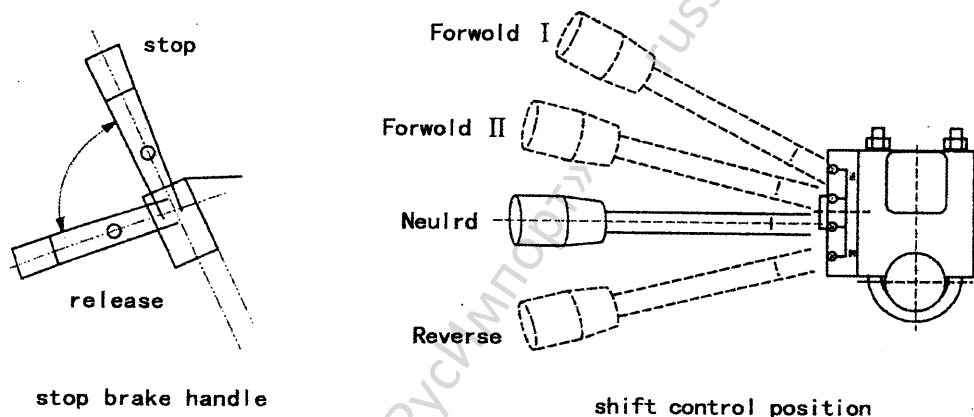

**Fig. 2-2**
2、 Shift operation : (figure2-2)